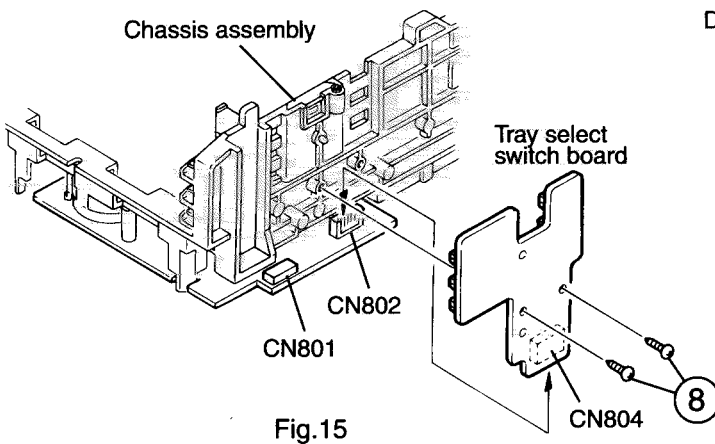

Fig.15
3. Remove the two screws 8 retaining the tray select switch board(See Fig.15).
(See Fig.15 ~18)**
2. While turning the cam gear L, align the pawl "N" position of the drive unit to the notch position(Fig.15) on the cam gear L.